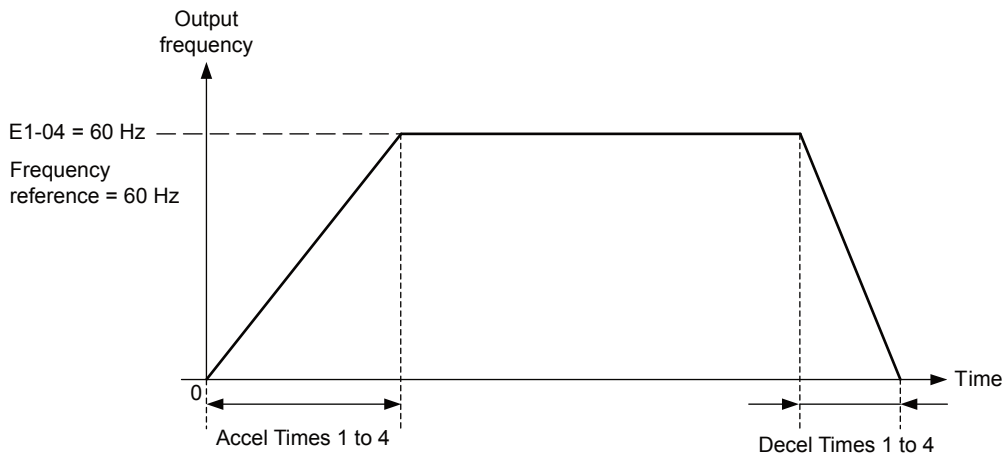
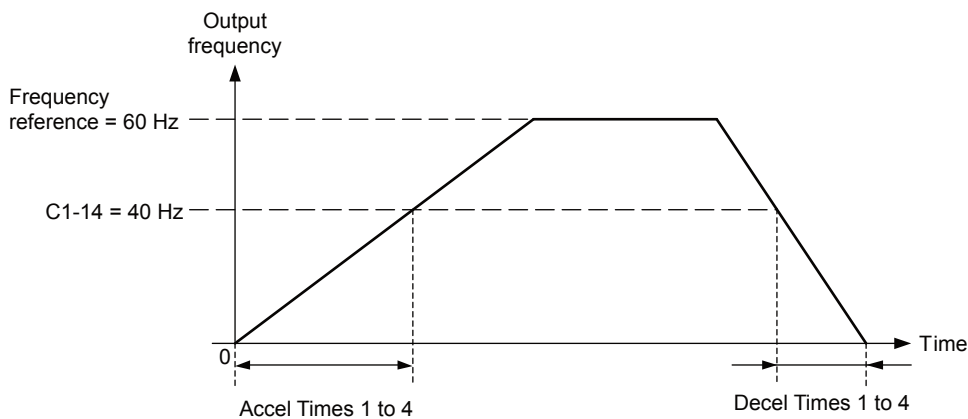
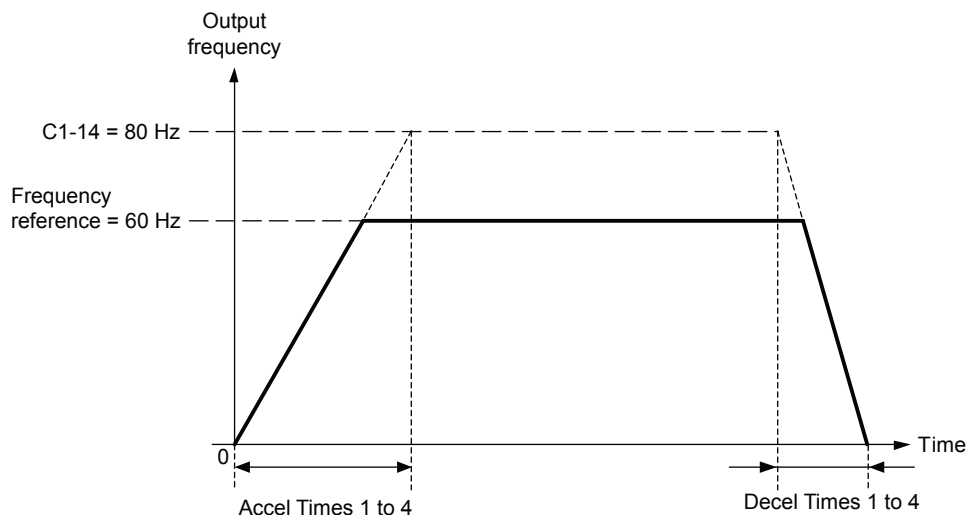

Figure 5.25 Accel/Decel Rate, Example 1 (C1-14 = 0 Hz, E1-04 = 60 Hz, Frequency Reference = 60 Hz)
Figure 5.26 Accel/Decel Rate, Example 2 (C1-14 = 40 Hz, E1-04 = 60 Hz, Frequency Reference = 60 Hz)
Figure 5.27 Accel/Decel Rate, Example 3 (C1-14 = 80 Hz, E1-04 = 60 Hz, Frequency Reference = 60 Hz)
Operation example is shown in *Figure 5.25*.
Operation examples are shown in *Figure 5.26* and *Figure 5.27*.
1. The accel/decel times shown in Figure 5.25 to Figure 5.27 assume S-curve characteristic time during accel/decel at start and accel/decel at stop of 0.00 s (parameters C2-01 to C2-04).